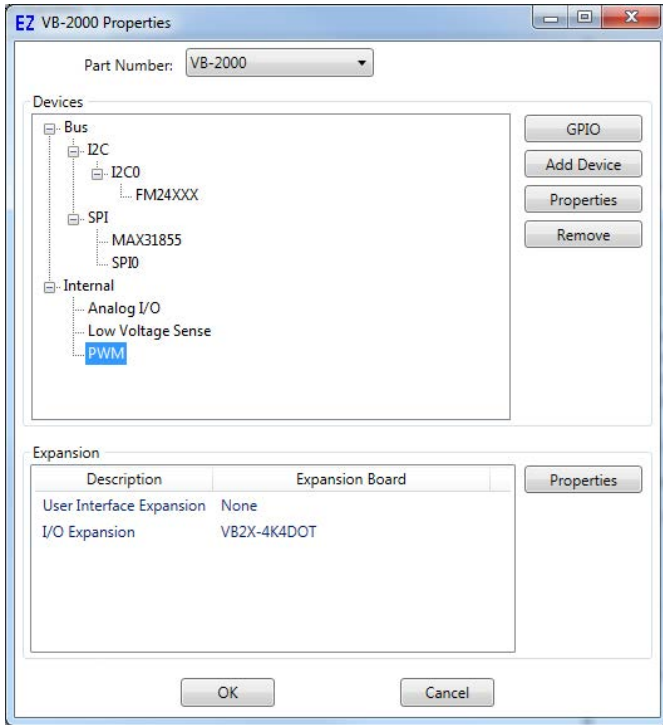

Figure 2-4 - VB-2XXX Properties
3. If PWM is listed under the **Internal** heading, then PWM has been installed (for outputs on the VB-2XXX controller). Only the VB2X-4K4DOT PWM channels need to be configured. If PWM is listed under **Internal**, highlight (select) it and click **PROPERTIES**, otherwise, click the **ADD DEVICE** button. Refer to Figure 2-4.